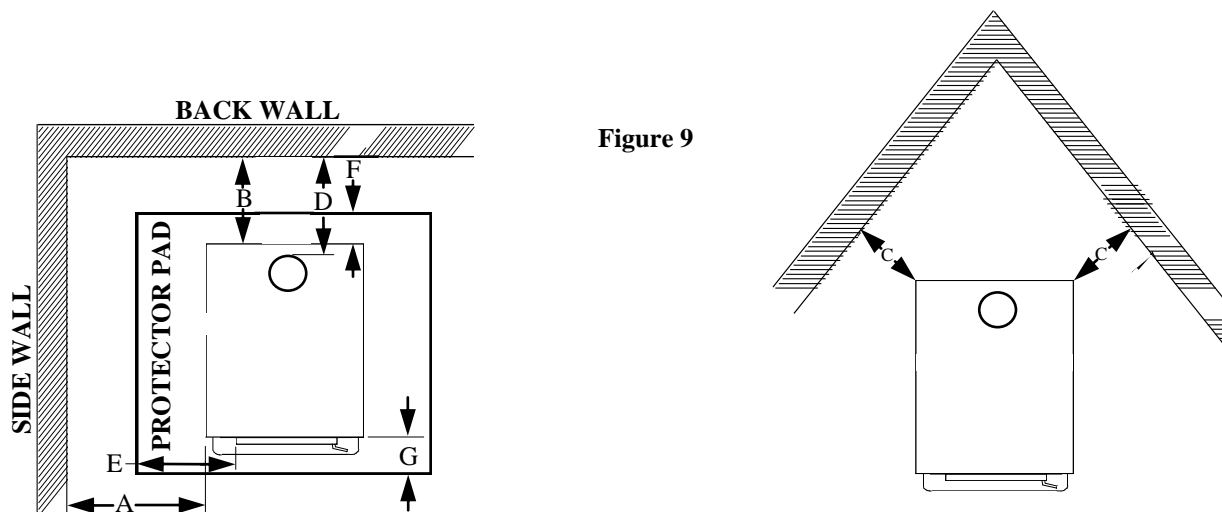

Figure 9
**NOTE: For minimum clearances (See Page 18, Figure 9).**